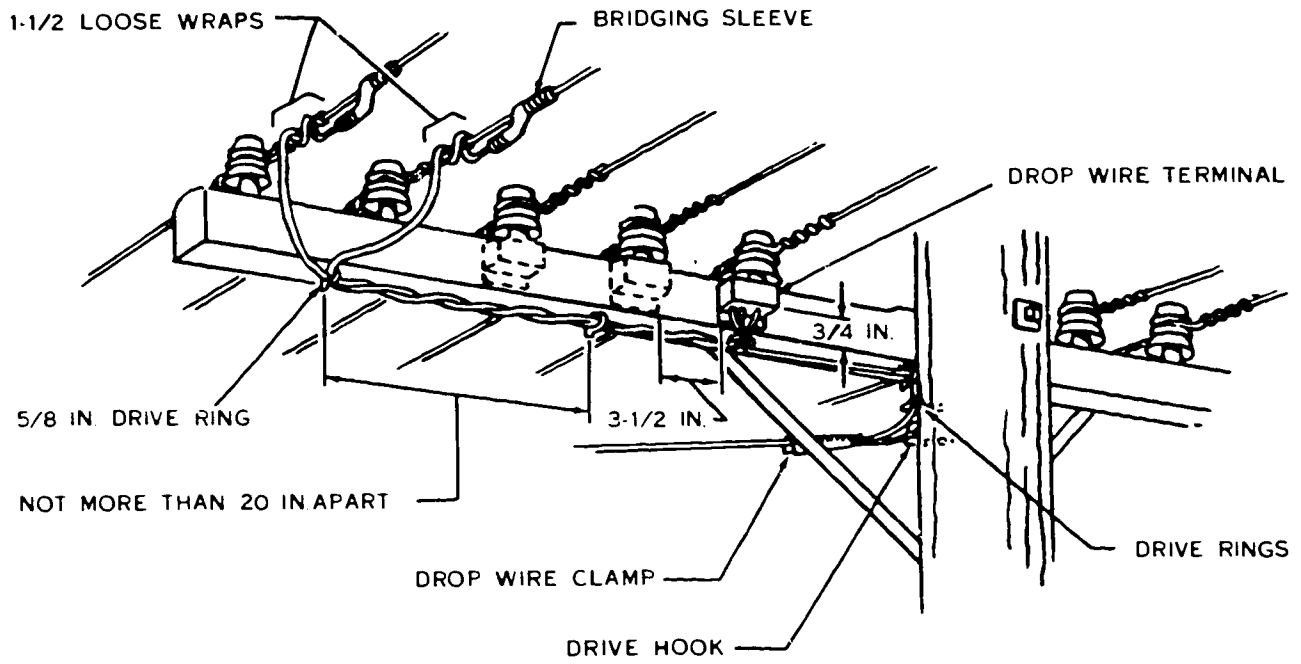
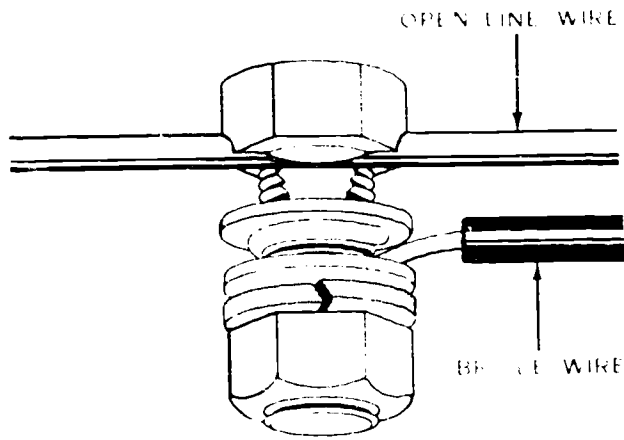

Figure 4-19. Drop wire termination at open wire pole with crossarm.
Figure 4-25. Example connection at bridging connector.
a. On poles with standard crossarms, locate drop wire terminals on the side of the crossarm, with the lower edge of the terminal $\frac{3}{4}$ inch above the bottom of the crossarm, as shown in figure 4-19. Locate the first drop wire terminal between the first and second wire from the pole. When required, space additional terminals $2\frac{1}{2}$ inches apart on dead-end crossarms and $3\frac{1}{2}$ inches apart on other crossarms.
4. Using figure 4-19, identify the pole attachments to use for holding the drop wire against the crossarm and give the maximum separation distance for them.
5. Using figures 4-19 through 4-21, identify the device to use when connecting the drop wire to the open wire at the pole.
Terminating procedures. Install a drop wire terminal with the binding posts pointing upward, as shown in figure 4-22. Attach the terminal to the crossarm or pole surface with two 1-inch No. 14 roundhead wood screws; then run the wiring as shown in figure 4-19.
n. Install each bridging sleeve on its corresponding line wire, as shown in figure 4-19. You may use a bridging connector similar to the one shown in figure 4-25 in place of a sleeve. Form a loop for the stripped end of the bridle wire and then slip it around the bolt between the two flat washers. Then position the bolt over the line wire, as illustrated, before tightening the nut to make a secure connection.